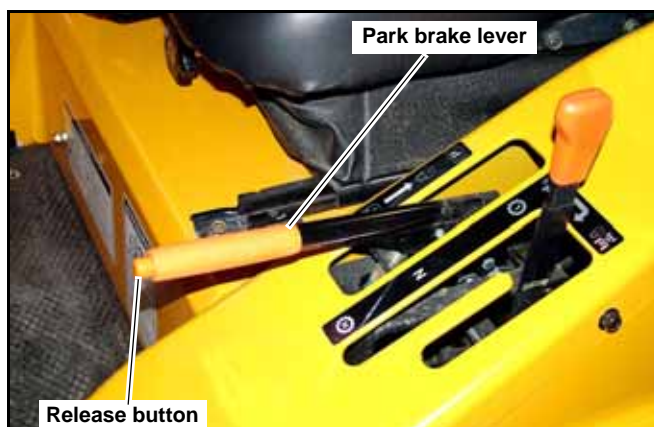

Figure 3-5
- C. **Park brake (Figure 3-5)** — The park brake should be applied whenever the tractor is parked or when the operator is out of the seat. To set the park brake, pull up on the park brake lever. To release the park brake, press on the brake lever release button while pushing down on the park brake lever.